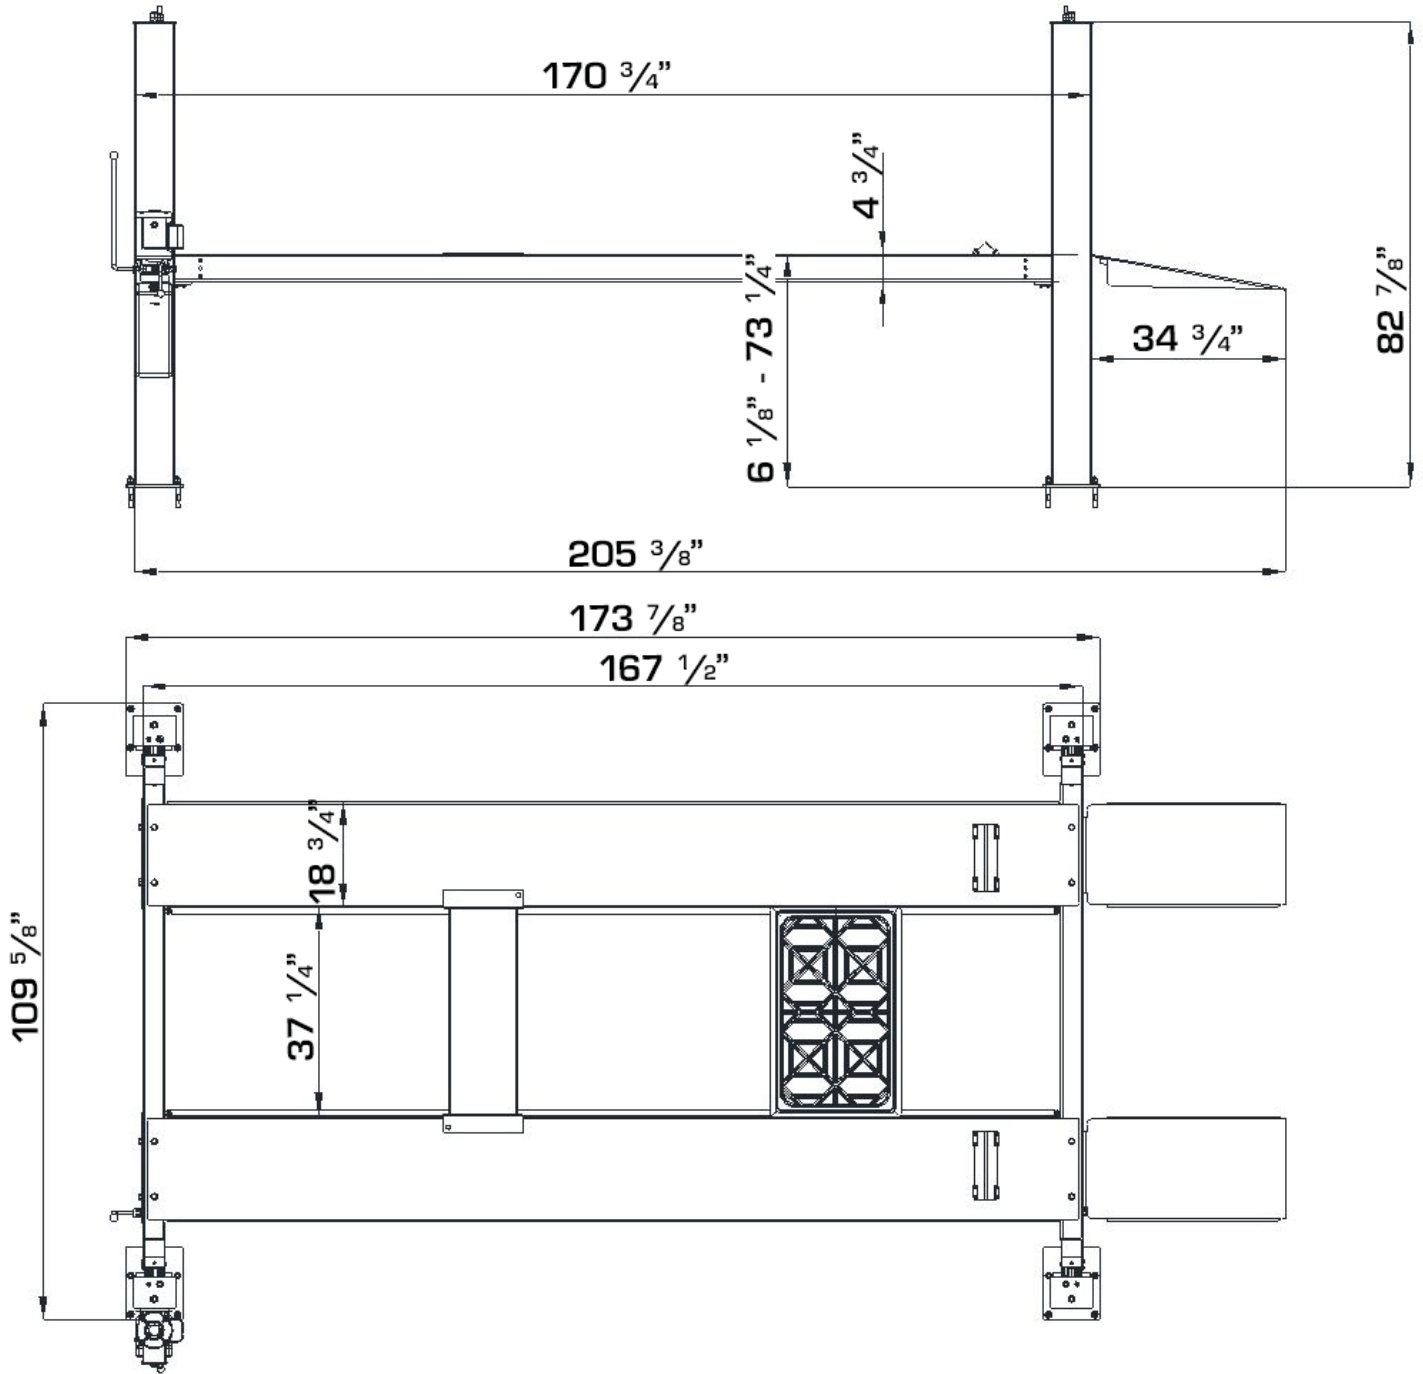

Figure 3 – Lift Layout
- Transport each to the located site referring to the figure 3.